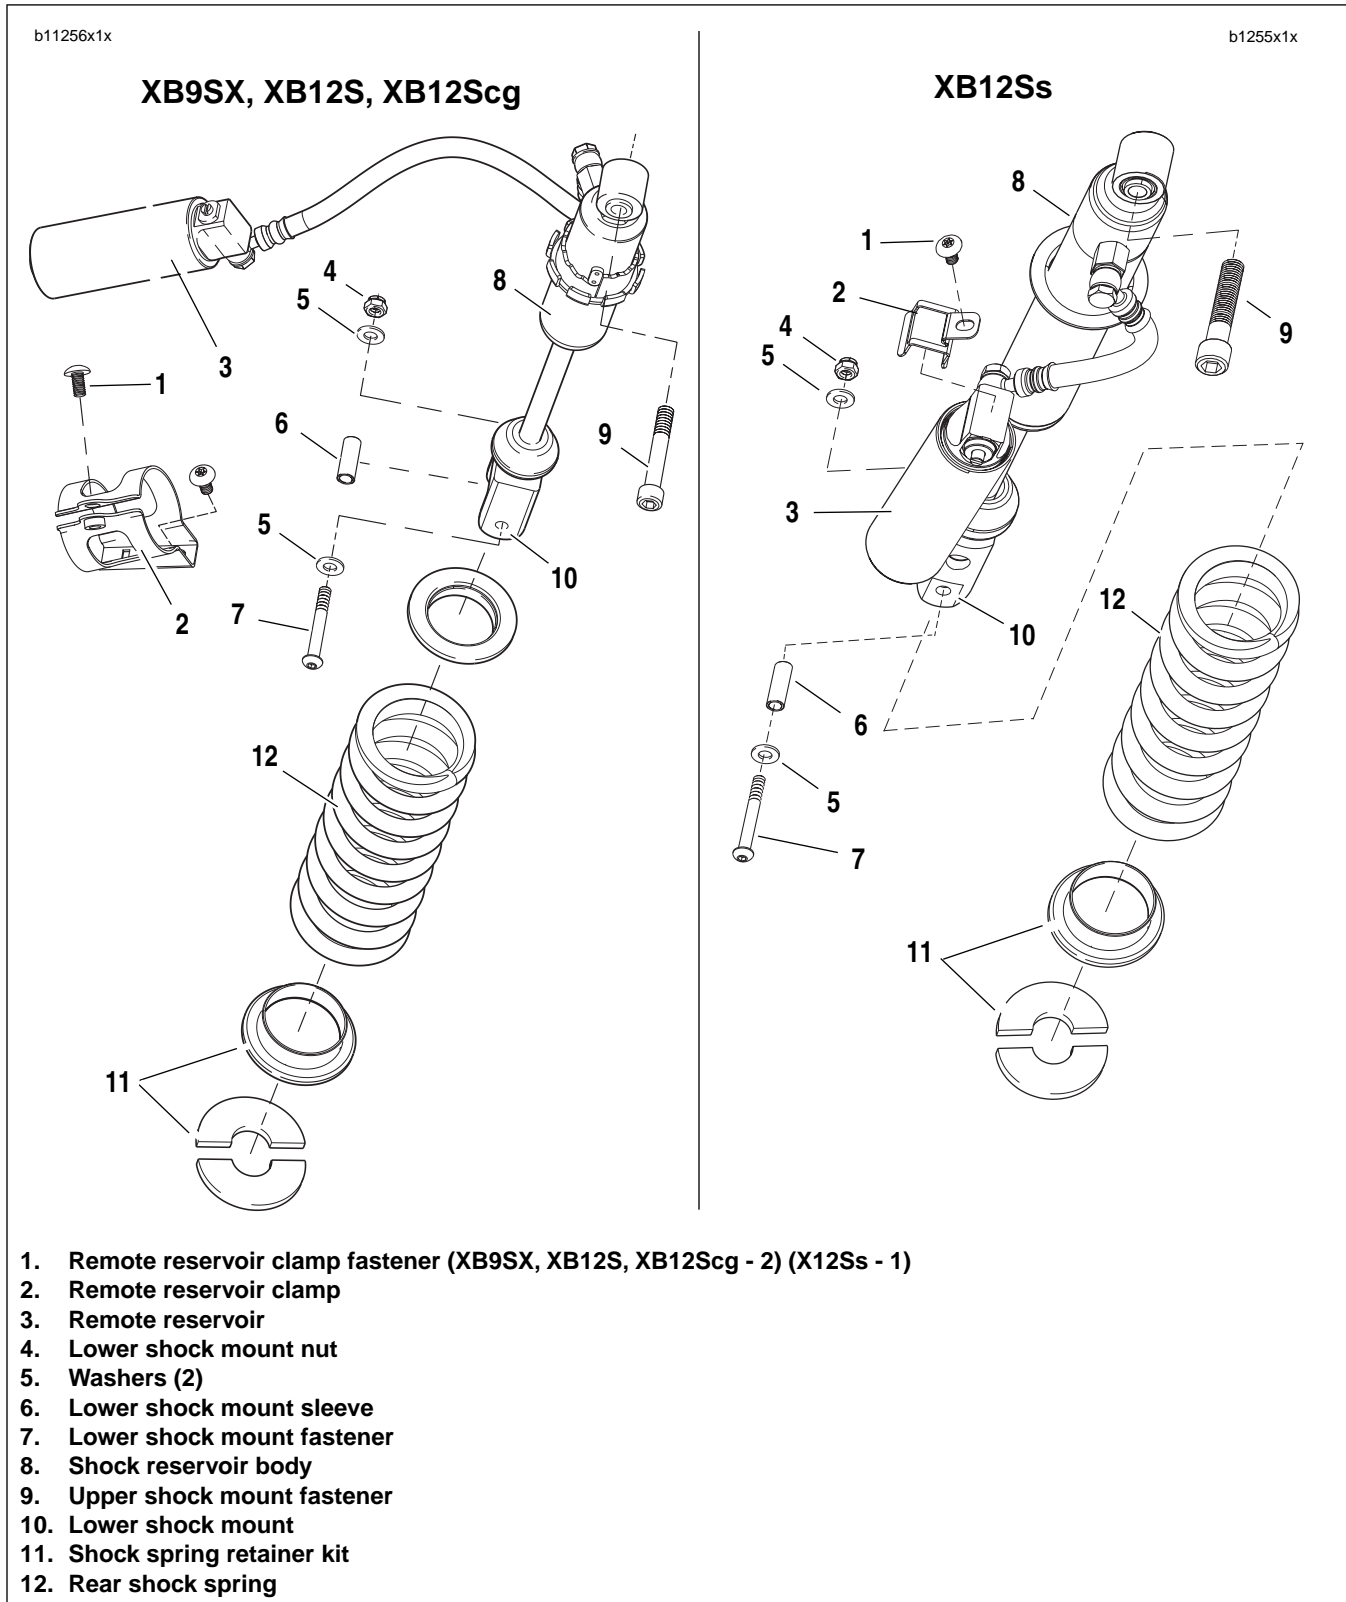

Figure 2-90. Rear Shock Absorber Assembly
2. Install pivot shaft (10) with a special 7/8 in. hex tool located in tool kit, ANTI-SEIZE and tighten to 24-26 ft-lbs (32-35 Nm).
3. Tighten pivot shaft pinch fastener (7) to 17-19 ft-lbs (23-26 Nm).
4. See Figure 2-90. Install lower shock absorber mounting fastener and spacer from shock absorber and swingarm and tighten to 15-17 ft-lbs (20.3-23 Nm).
5. See Figure 2-90. Remove the nut (4) and washer (5) from the lower shock bolt and raise scissor jack until the lower bolt can be removed by hand.
6. After removing both shock fasteners (7, 9) and reservoir clamp fastener (1), remove rear shock assembly and reservoir.
2. See Figure 2-90. Install rear shock assembly in upper shock mount. Install fastener (9) and tighten to 48-52 ft-lbs (65-70.5 Nm).
3. Install lower shock mount with fasteners (4, 5, 7) and lower shock mount sleeve (6) and tighten to 15-17 ft-lbs (20.3-23 Nm).